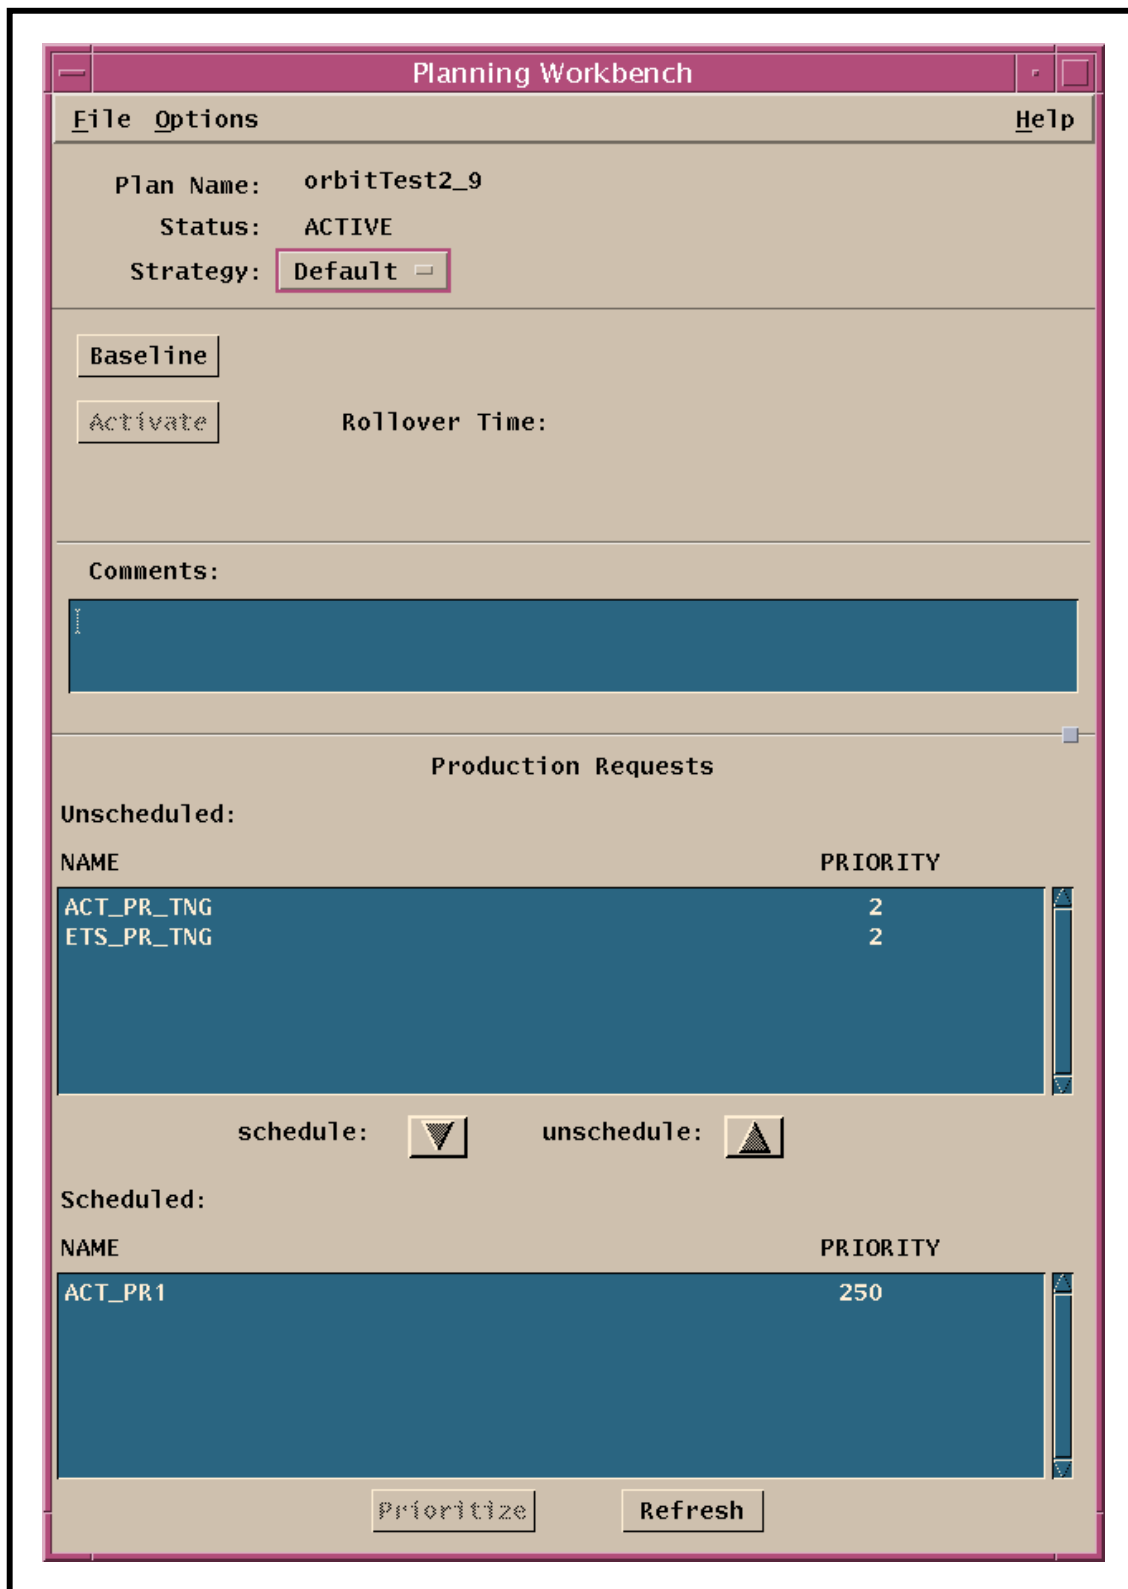
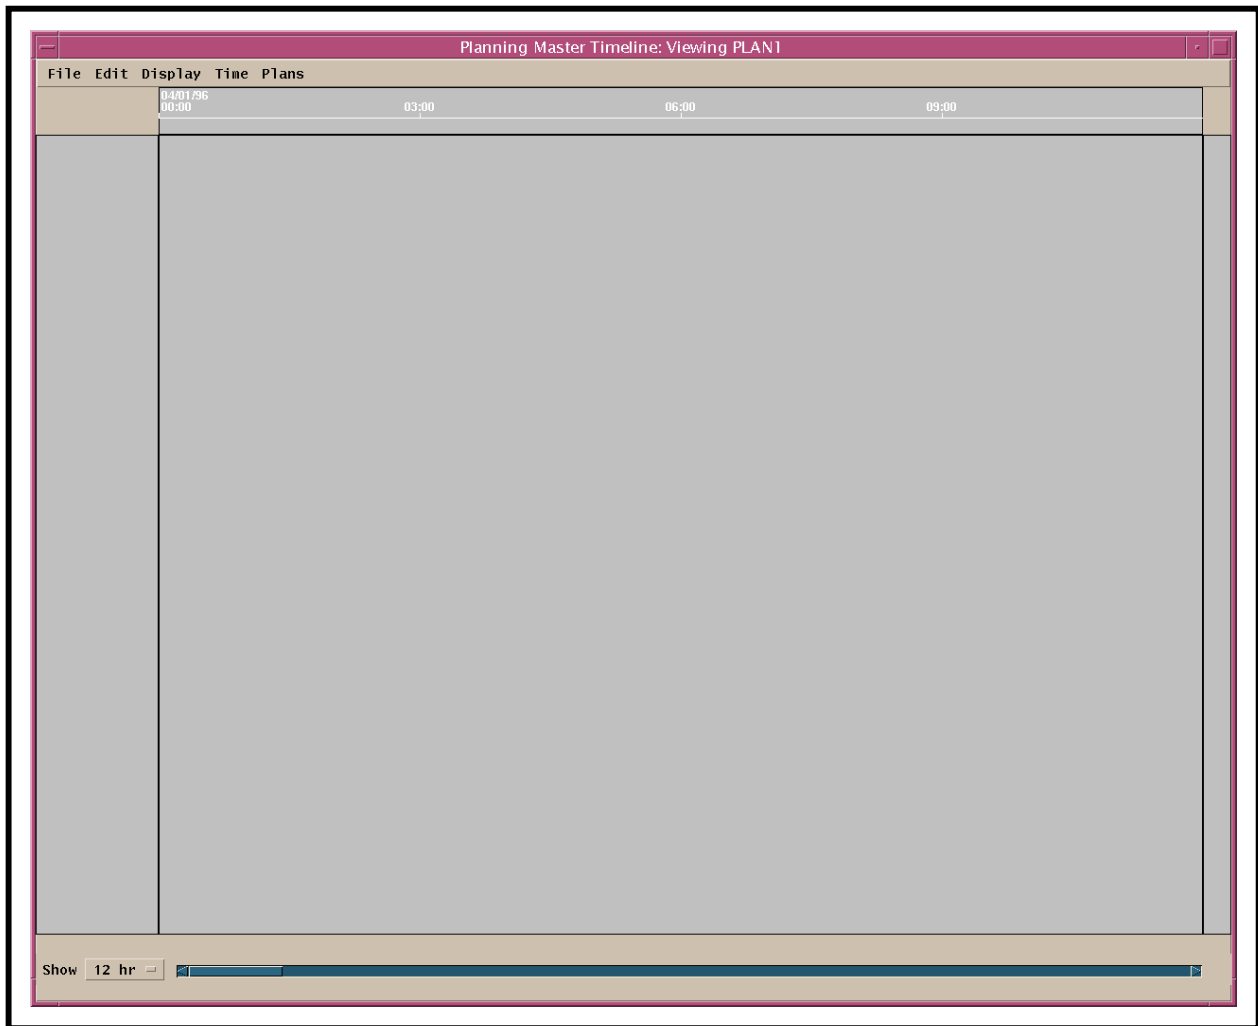

Figure 37. Planning Workbench GUI
Figure 38. Production Planning Master Timeline GUI
- Eventually, the **Planning Workbench GUI** (Figure 37) is displayed. Then the **Production Planning Master Timeline GUI** (Figure 38) is displayed.
- The **Planning Workbench** GUI (Figure 37) is displayed.
- The **Production Planning Master Timeline** GUI (Figure 38) is displayed.